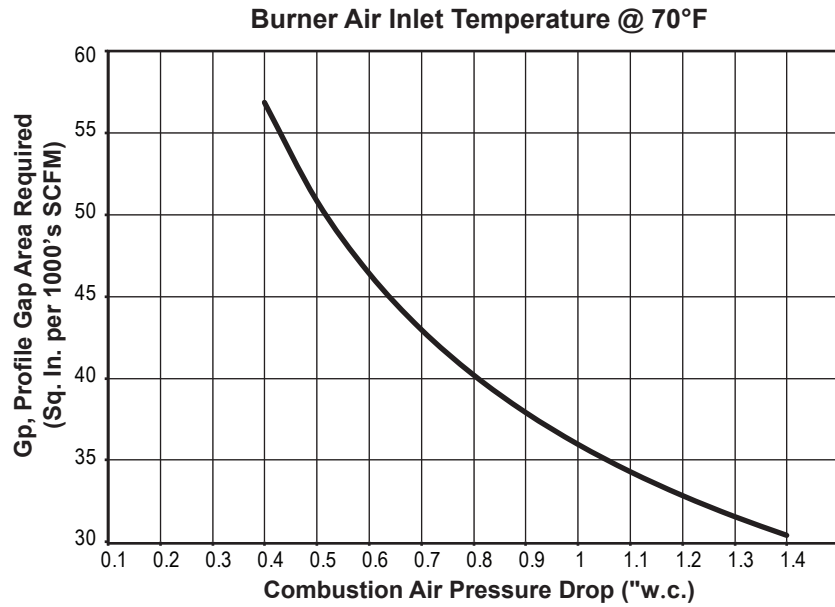

Figure 3.3 Profile Gap Area vs. Air Pressure Gap
3. G_p = Profile gap area required per flow from Figure 3.3; see Table 3.4 for corrections at higher or lower burner air inlet temperatures.
From Figure 3.3: $G_p = 43$